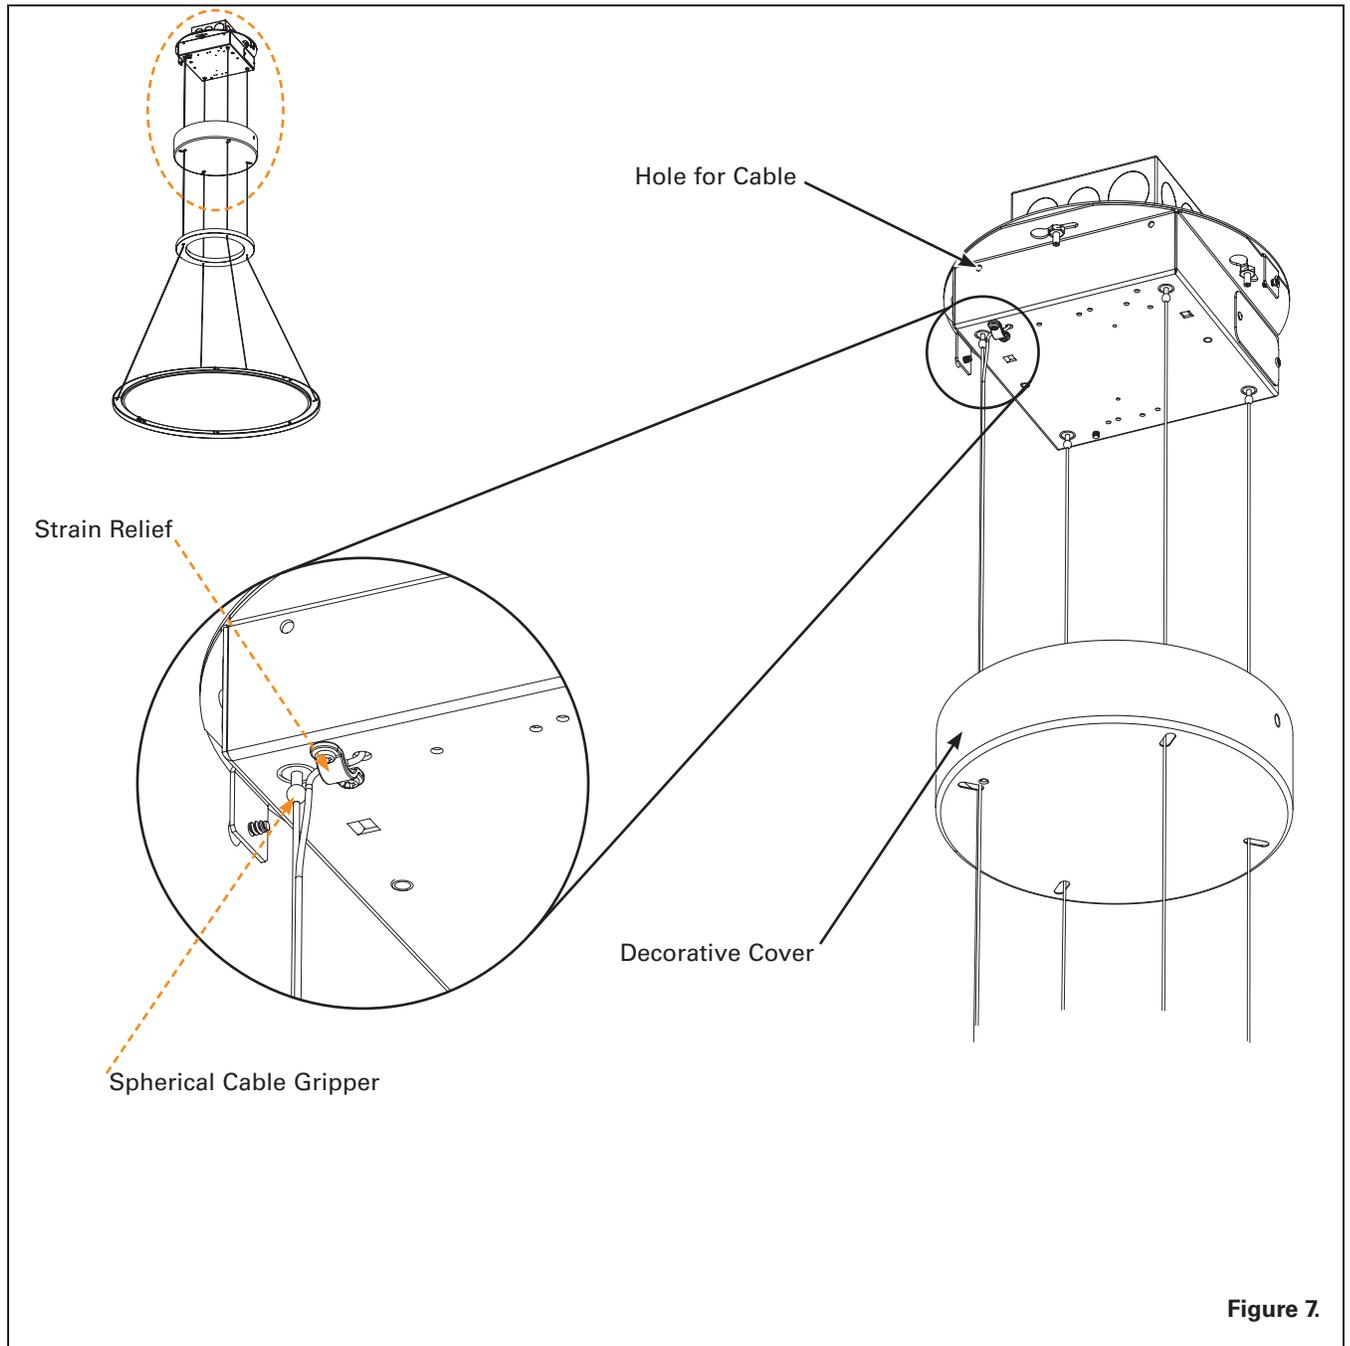

Figure 7.
Step 6. Insert the Air Craft Cables into the spherical shape Cable Grippers in the Driver Compartment. Raise Light Guide Panel by continuing to feed the Air Craft Cables through the Grippers, pulling the excess cable out of the hole for air craft cable as the light fixture is raised. To lower the cables, gently push up on the neck of the Gripper. Figure 7
Step 7. Feed the Low Voltage cable through the Strain Relief into the holes of driver compartment. Make the wire connections with driver using the wire nuts provided. Figure 7